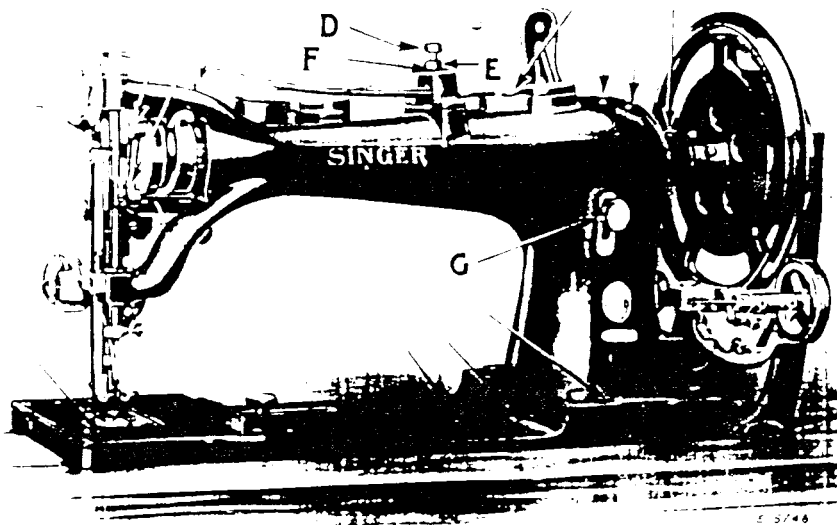

Fig. 14. Oiling Points at Front of the Machine
The length of the stitch is regulated by the thumb screw (G, Fig. 14) in the slot on the front of the horizontal part of the arm. To lengthen the stitch, loosen the thumb screw and move it downward. To shorten the stitch, loosen the thumb screw and move it upward. When the desired length of stitch is obtained, tighten the thumb screw.
The pressure on the material is regulated by means of the hexagon head screw (D, Fig. 14). Loosen the hexagon head lock nut (E, Fig. 14) and turn the screw (D) to the right to increase the pressure, or to the left to decrease the pressure. When the desired pressure has been obtained, hold the screw (D) with a wrench to keep it from turning while the lock nut (E) is being tightened against the bracket (F).
The places where the machine should be oiled are indicated in Figs. 14 and 15 by arrows pointing to the oil holes and bearings. Oil should be regularly applied to the shuttle race also in the hole in the hub of the friction driving pulley.